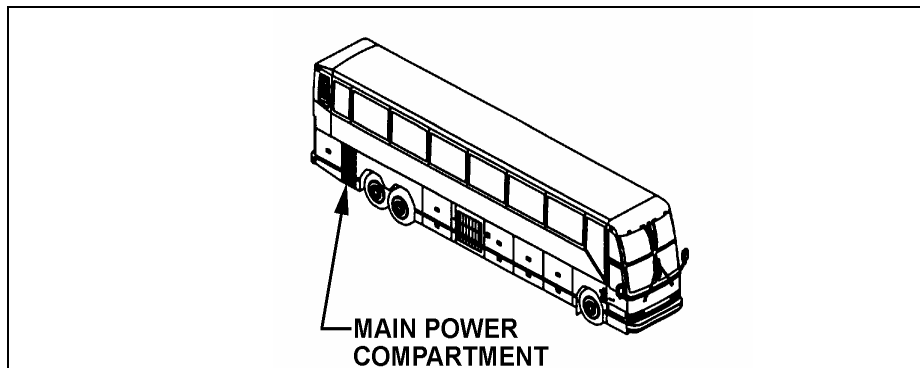

FIGURE 2 : MAIN POWER COMPARTMENT
1. Main power compartment battery cables and cables near "Vanner" battery equalizer must also be checked to ensure they are sound. Open main power compartment door (refer to figure 2).